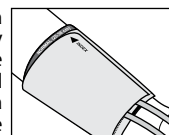

Fig. 7
5. On the fixed cuff the sign «INDEX» should point to the area «NORMAL» (fig. 7). It means that the cuff is chosen correctly and fits the size of your upper arm. If the sign points to the area marked «<» or to the left, the cuff is too small and the readings will be higher. If the sign points to the area marked «>» or to the right, the cuff is too large and the readings will be lower.